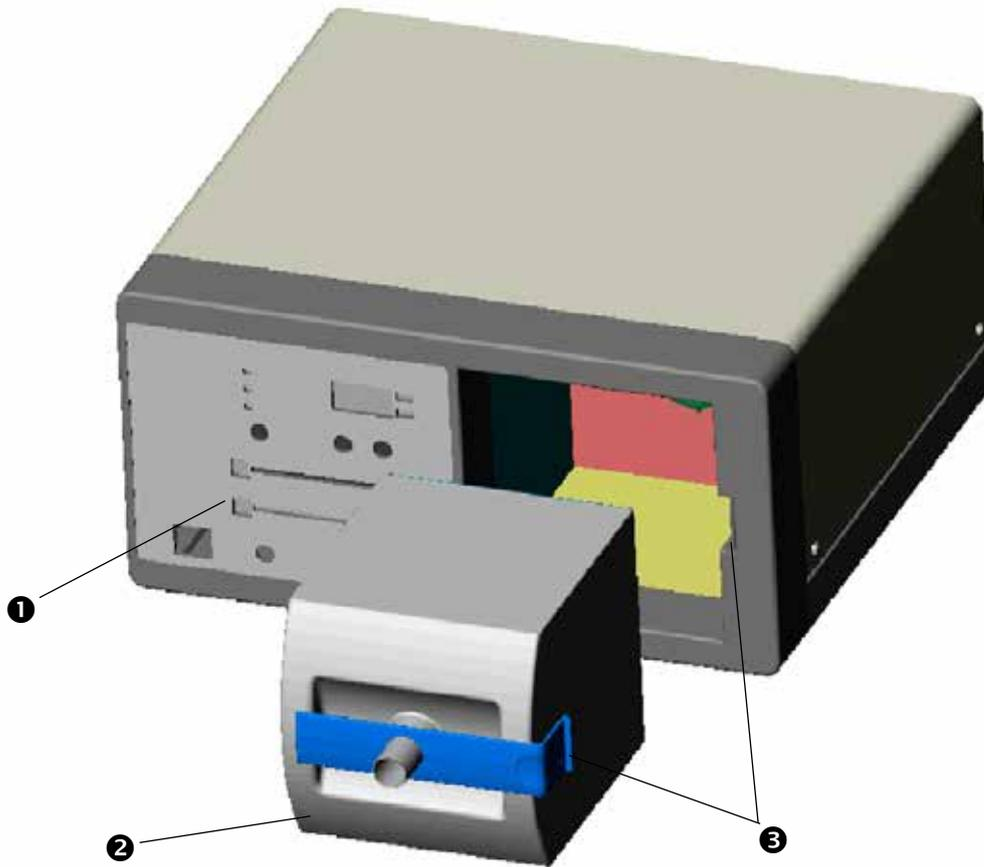

Fig. 1. AtmoSafe Overall view
- After having taken off the packaging and the plugs, please slide the main filter (⚙, Fig. 1, p. 15) into the filter shaft of the unit until it locks. Take care that the filter cover is on the right side.